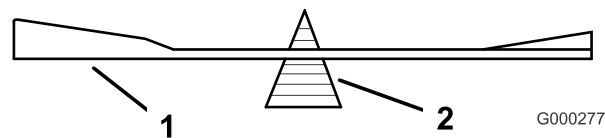

Figure 57
balanced, file some metal off the end of the sail area only (Figure 57). Repeat this procedure until the blade is balanced.
2. Check the balance of the blade by putting it on a blade balancer (Figure 57).